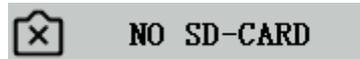

Figure 13-1
1. When pressing the snap button, recording videos, taking photos at a fixed time, or entering the SD card management menu, *NO SD-CARD* will be displayed, as shown in Figure 13-1. Please insert the SD card with file system FAT32 into the MicroSD card slot on the right side of the camera, and then carry out corresponding operations.